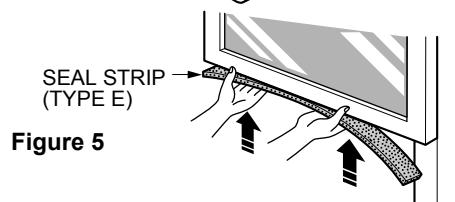

Figure 5
2. Cut the adhesive-backed seal strip (TYPE E) to the window width. Remove the backing from the seal strip and attach the seal strip to the underside of the bottom window. (Figure. 5)